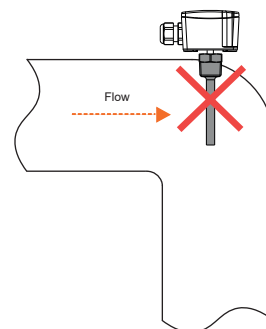

Fig. 5 Probe position in the pipe with immersion well
- Mount the temperature sensor at representative locations of the space to be monitored (see Fig. 4 and Fig. 5).